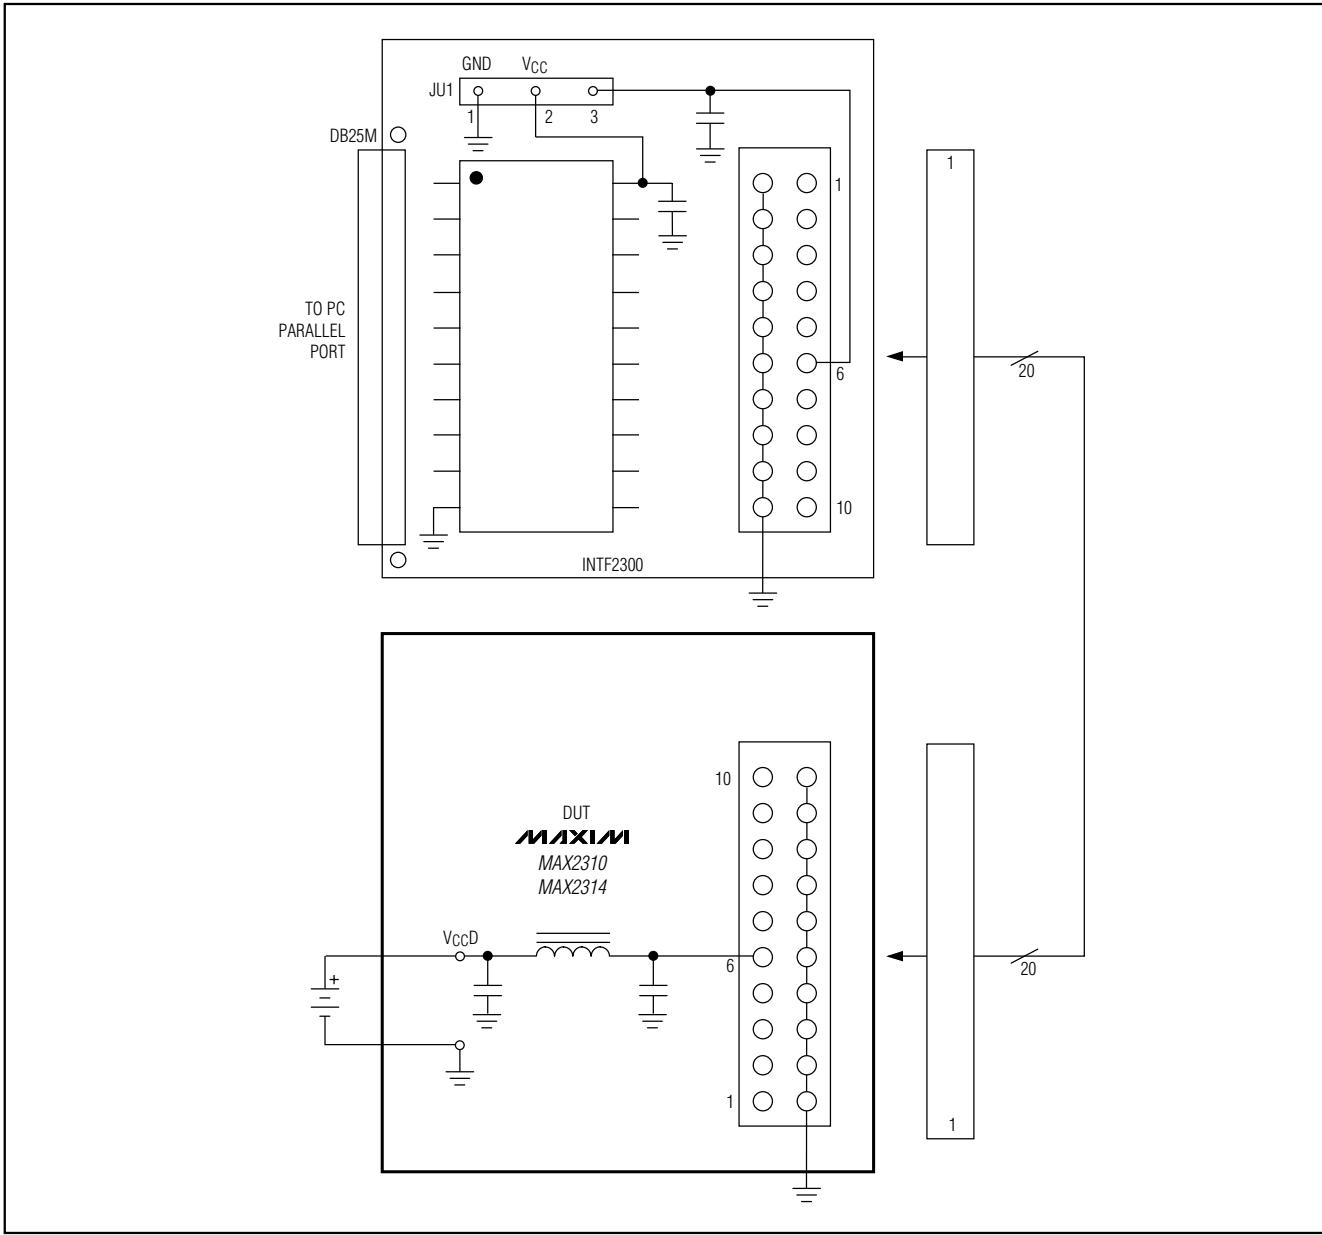

Figure 8. INTF2300 Interface Board
- 2) Connect the INTF2300 interface cable as shown in Figure 8. (Pin 1 of the interface cable corresponds to the red wire; pin 1 is designated in silk screen on each of the PC boards.)
also provides buffering and EMI filtering. The recommended operating supply voltage range is +2.7V to +3.6V. For operation of the MAX2310/MAX2314 above +3.6V, jumper JU1 may be removed and an external supply voltage of +3.6V may be applied between VCC (pin 2) and GND (pin 1) (Figure 8).